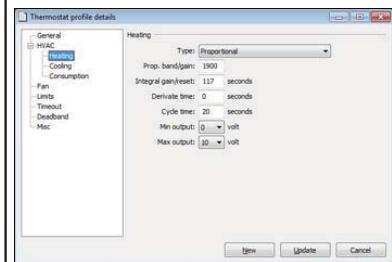

Figure 49
If 'Proportional' is chosen at **Type**, the below parameters are applicable. If necessary, make changes to the default values which are shown in Figure 49.
*The regulator will set  $3 \times 1.9V = 5.7V$  on the output (if all default values in Figure 49 are used)*